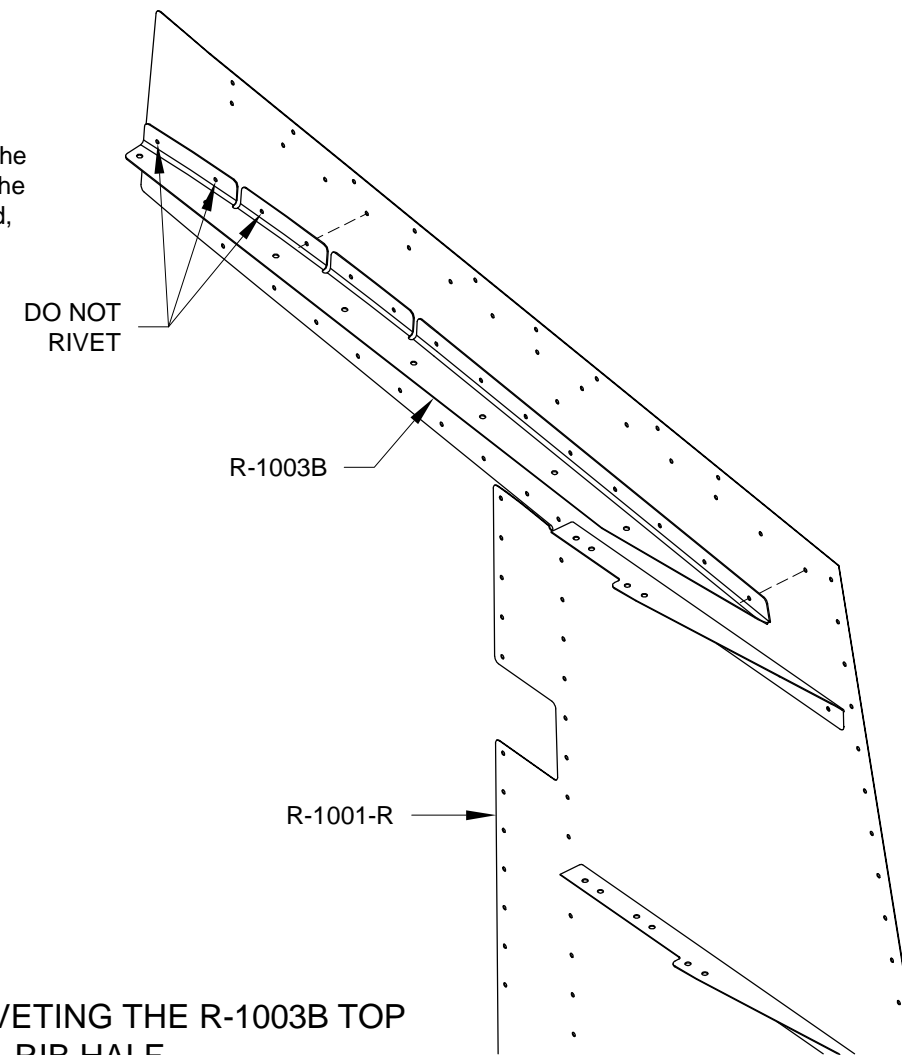

FIGURE 2: RIVETING THE R-1003B TOP RIB HALF
Step 2: Rivet the R-1003B Top Rib half to the R-1001-R Skin as shown in Figure 2. Use the rivets called out on Page 7-12, Figure 3 and, once again, leave the forward three holes open.